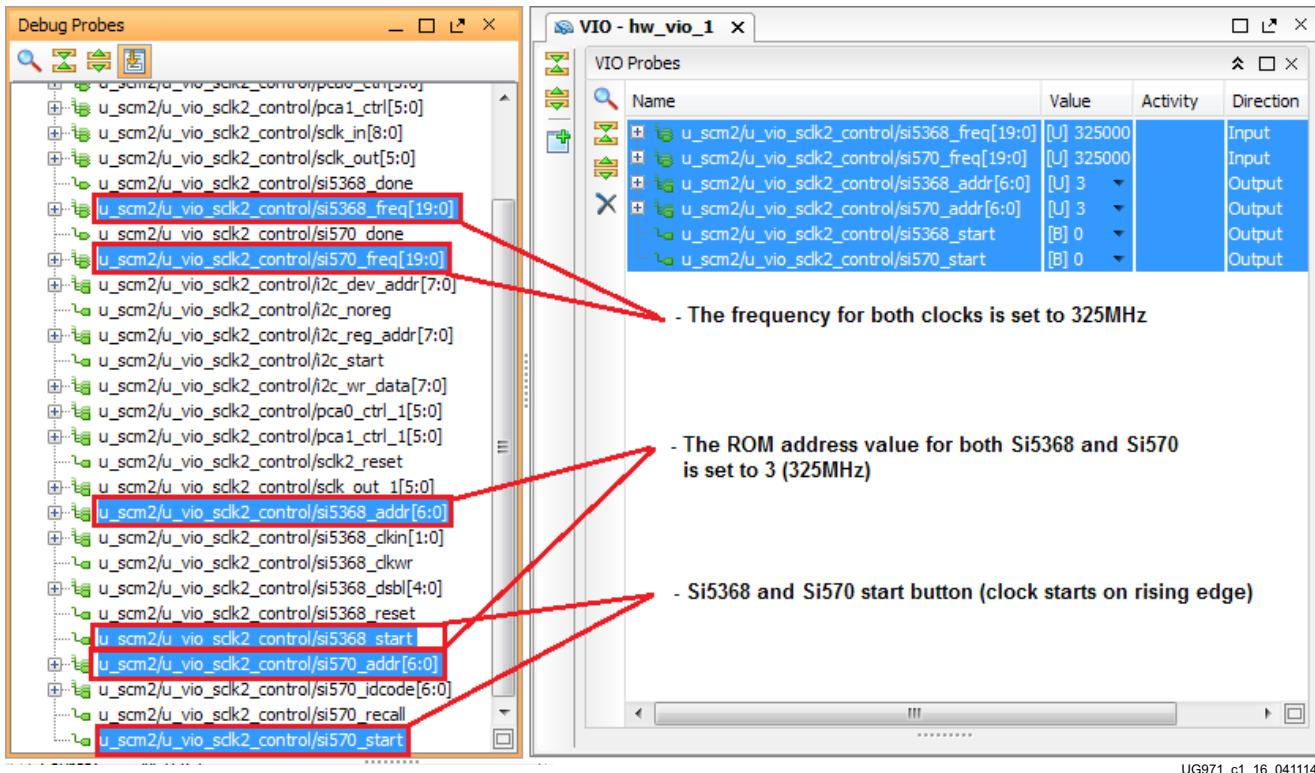

Figure 1-16: SuperClock-2 Module VIO Core
4. To view the SuperClock-2 settings in the VIO core, select the probe signal from the Debug Probes window and drag it to the VIO-hw_vio_1 window. For example, the frequencies, ROM addresses, and start signals are selected (Figure 1-16).